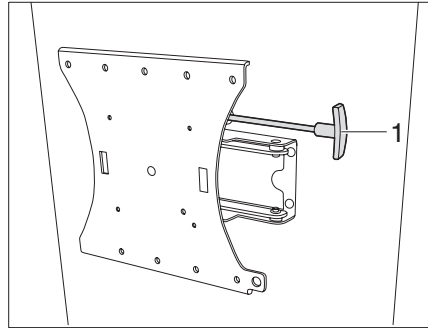

Fig. 69 Bracket with jointed arm (Variant 2)
- Pull the lever (Fig. 69,1) to release the flat screen from the latch.
- Push the lever (Fig. 69,1) back in to lock.